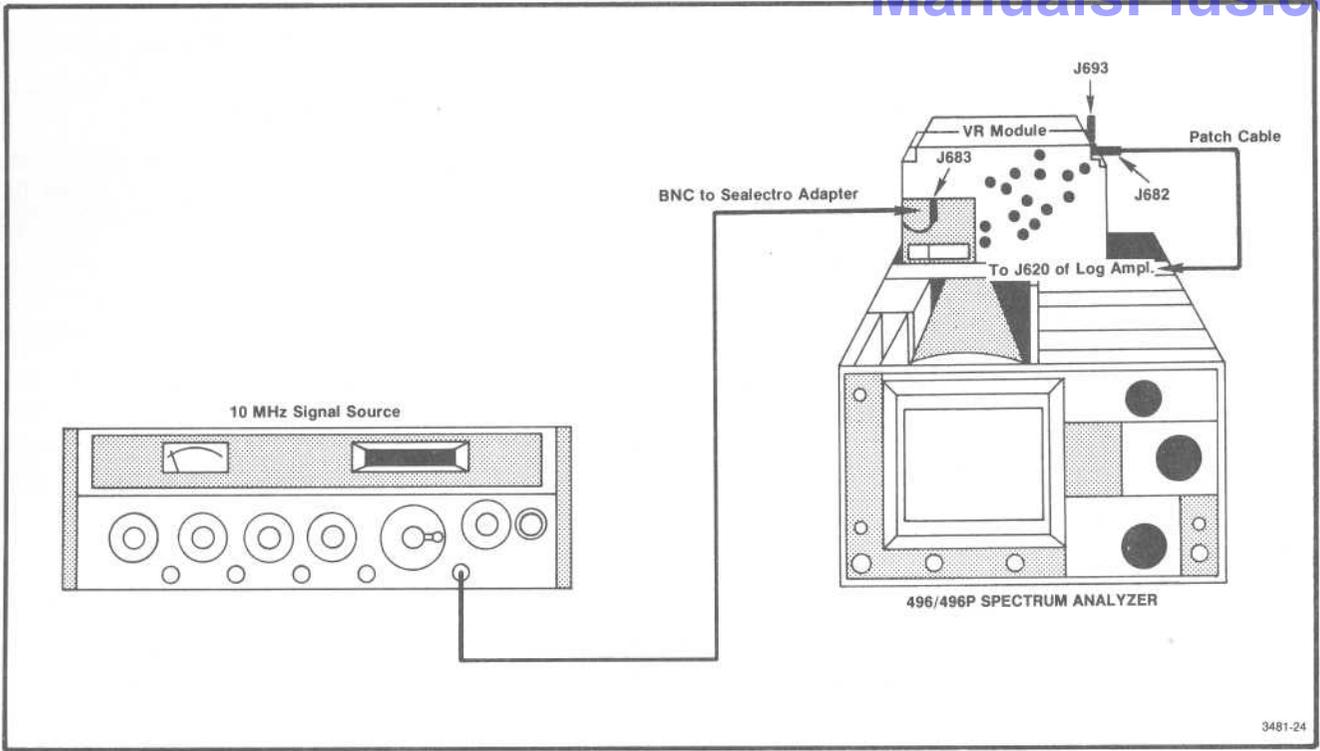
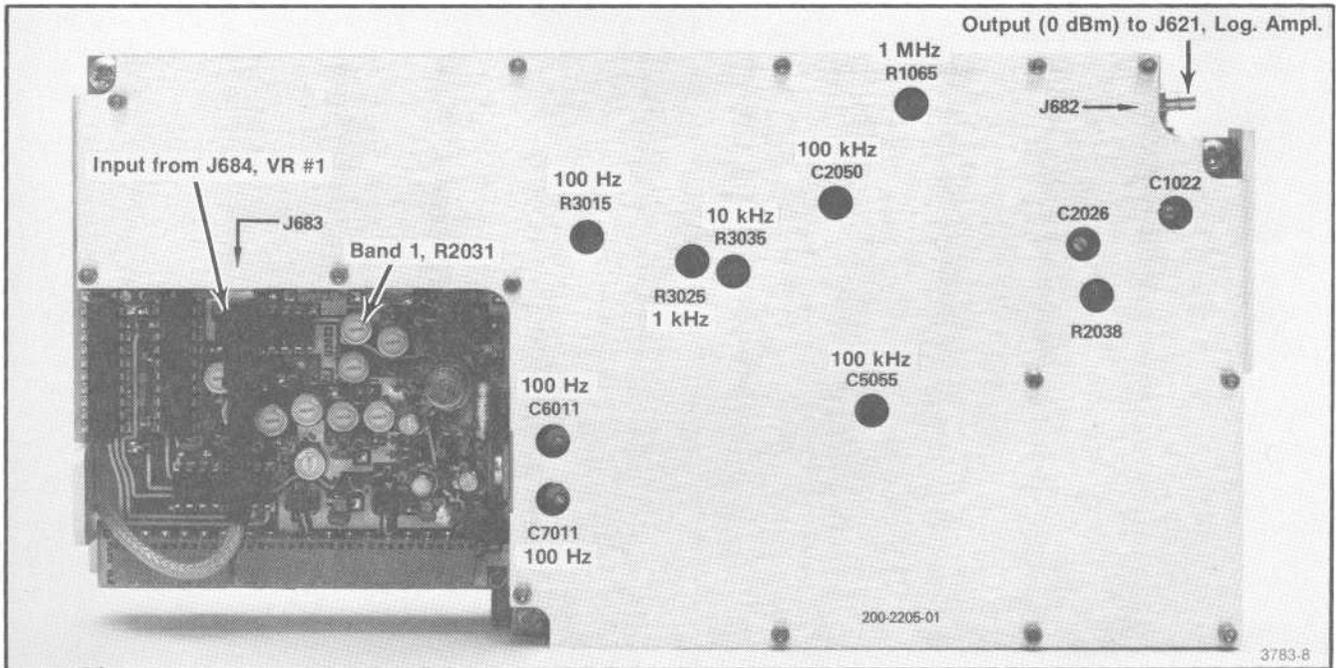
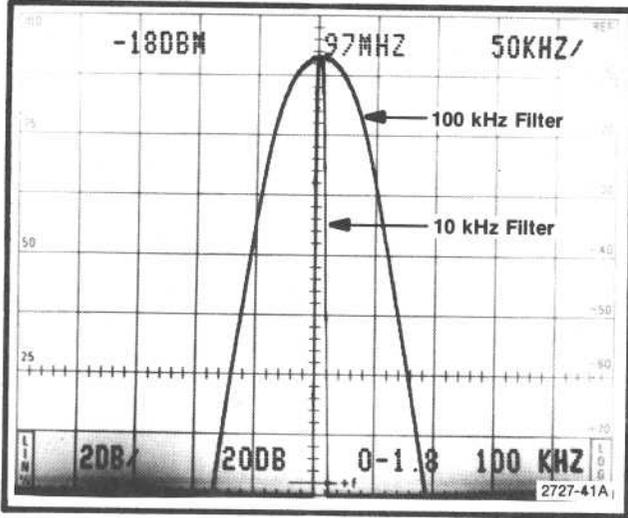

Fig. 3-36. Test equipment setup for calibrating the VR section.
Fig. 3-37. Calibration adjustments on the VR #2 module.
Fig. 3-38. Response of the 100 kHz filter.
a. Equipment setup is shown in Fig. 3-36. Place the VR module on an extender and connect the output 10 MHz signal, from the 3rd Converter, to the input of the VR#2 section. Use a Seaelectro male-to-male adapter and coaxial cable to connect between P693 and J683.
g. Adjust C2050 and C5055 (Fig. 3-37) for the best 100 kHz filter shape and waveform centering (100 kHz, 3 dB down, and centered with respect to the 10 kHz reference). Refer to Fig. 3-38.
i. Adjust C2026 and C1022 (Fig. 3-37) for the best 1 MHz filter shape and waveform centering.
Locations of the adjustments are shown in Figs. 3-37 and 3-39.
The Post VR Gain, R2038 (Fig. 3-37), is normally preset by removing the VR#2 module cover and applying a -21 dBm, 10 MHz signal to pin JJ. Adjust for a full screen display with a REF LEVEL of -30 dBm. Replace the cover before proceeding with the other gain adjustments. If the range of any band gain adjustments is insufficient, add a diode between the output from U3023 and the base of Q2046, as shown on the schematic diagram for Variable Resolution No. 2.
a. Test equipment is shown in Fig. 3-36. Install VR#2 module on an extender board as shown in Fig. 3-37. Set the front panel-controls as follows:
c. Adjust the front panel AMPL CAL to its fully ccw position and set the Band 1 Gain R2031 (Fig. 3-37) on VR#2 fully ccw.
f. If the signal is above 5 divisions, adjust the Post VR Gain R2038 (Fig. 3-37) for a 5 division signal amplitude (if the signal amplitude is less than 5 divisions proceed to step g).